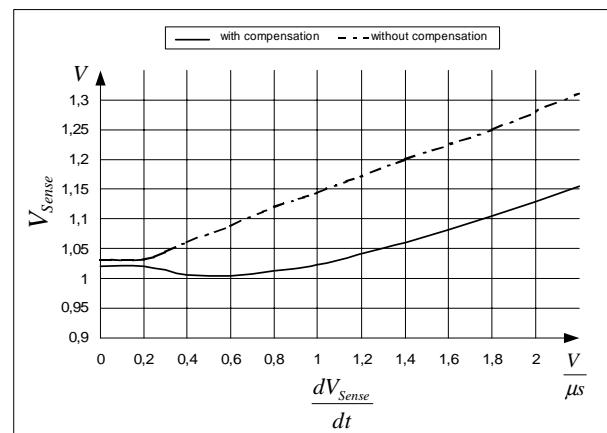

Figure 16 Overcurrent Shutdown
So current limiting is now capable in a very accurate way (see Figure 16).
E.g.  $I_{peak} = 0.5A$  with  $R_{Sense} = 2$ . Without propagation delay compensation the current sense threshold is set to a static voltage level  $V_{csth}=1V$ . A current ramp of  $dI/dt = 0.4A/\mu s$ , that means  $dV_{Sense}/dt = 0.8V/\mu s$ , and a propagation delay time of i.e.  $t_{Propagation\ Delay} = 180ns$  leads then to a  $I_{peak}$  overshoot of 12%. By means of propagation delay compensation the overshoot is only about 2% (see Figure 16).